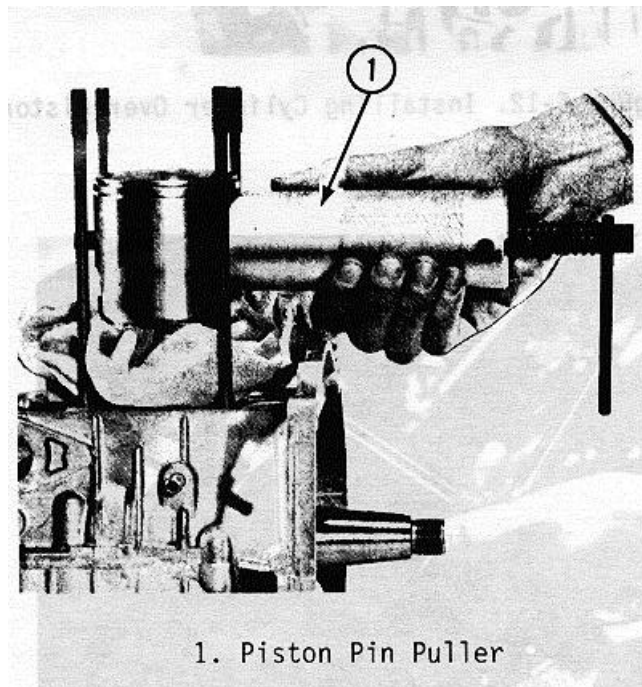

Figure 6-11. Piston Pin Installation
(1) Apply light coat of BIA-TC-W oil (NSN-9150-00-117-8791) to piston pin needle bearings and insert needle bearing into upper connecting rod.
(2) Install piston to connecting rod with arrow pointing toward exhaust side. Insert piston pin and secure piston pin using new circlips, snap rings, or equivalent. Use the piston pin tool when installing pin. (See figure 6-11.)